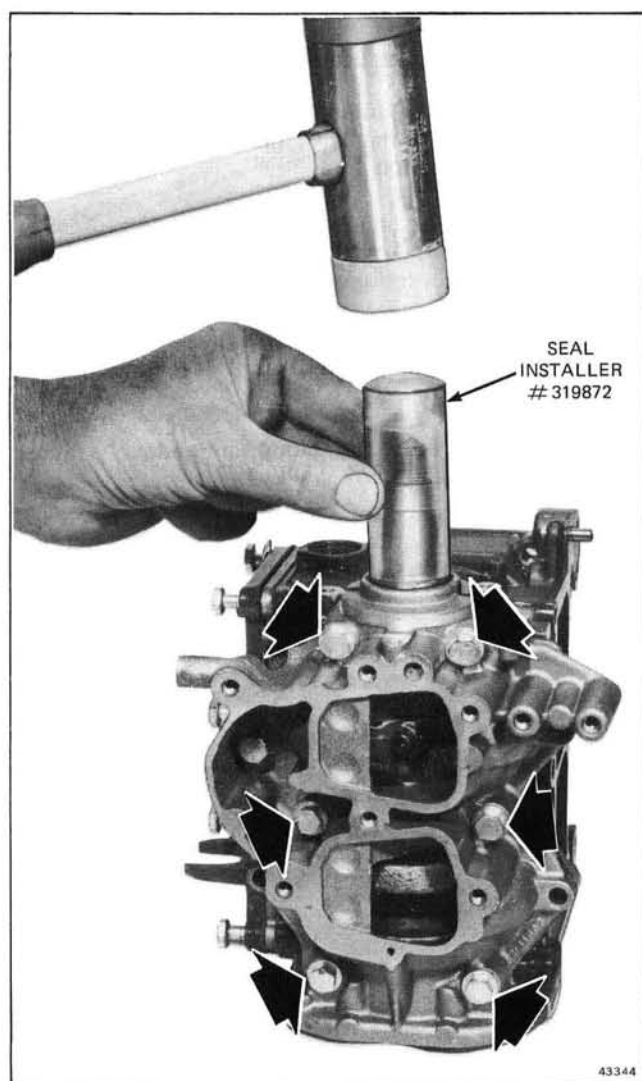

Figure 5-42. Installing Upper Main Bearing Seal
d. Tighten the 6 center crankcase screws to torque specified in Section 2. See Figure 5-42. Tighten remaining smaller crankcase screws to specified torque in Section 2.
e. Install upper main bearing seal using seal installer (Special Tool #319872). See Figure 5-42.